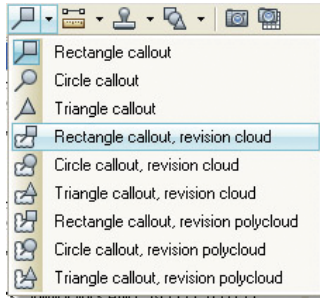

Figure 6
1. To create a revision cloud with comments, click on the Markup tool from the main toolbar. If the rectangular markup cloud is not displayed, click on the down arrow of the Markup tools and select it from the expanded list. (Figure 6)